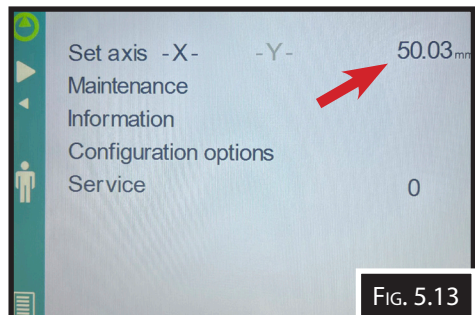

FIG. 5.13
6. Touch on the X to ensure the X Set axis value is shown. Compare "X" Value with the measured X axis position from the back guage finger tip to the center of the Die V, to adjust enter actual measured value. (Fig 5.13)